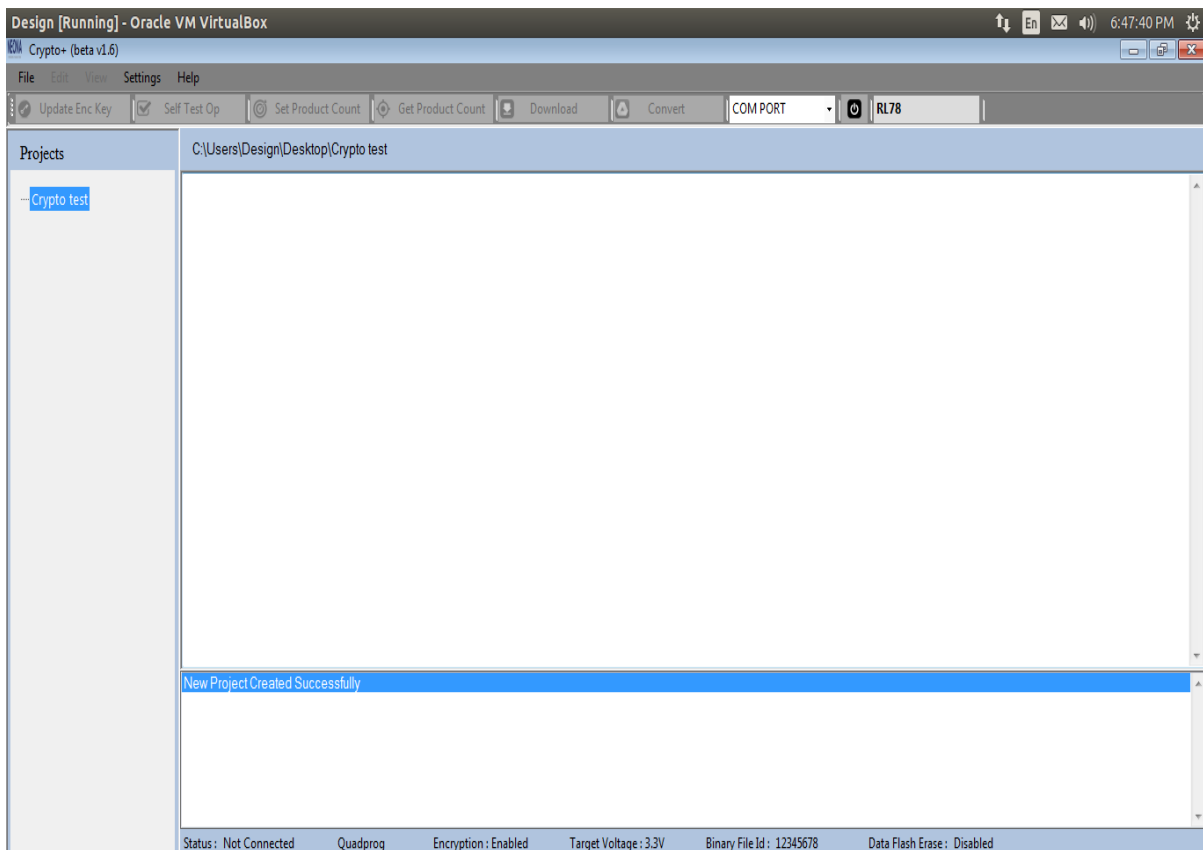

Figure 2.18
STEP 12: New project Created- Click finish. Now the new project is created successfully. The project and the files can be seen in the tree-view and a message ‘New Project Created Successfully’ will be displayed in the text view as shown in figure 2.18.